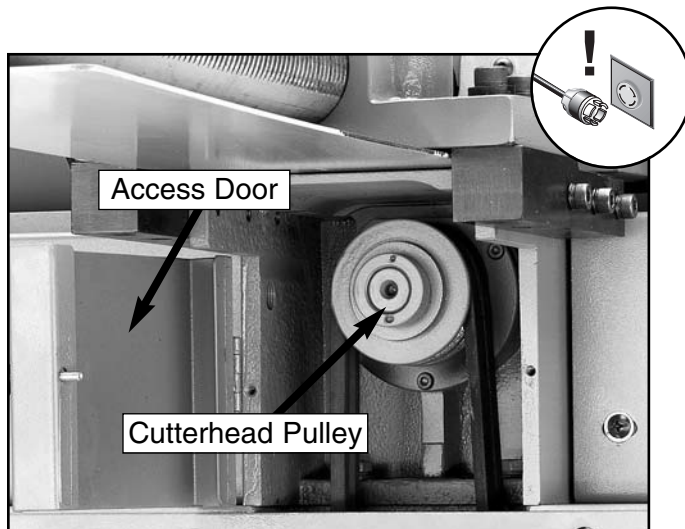

Figure 17. Accessing the cutterhead pulley.
2. Open the access door (**Figure 17**) on the back of the machine, just below the fence adjustments .
4. Rotate the cutterhead by turning the cutterhead pulley (**Figure 17**).